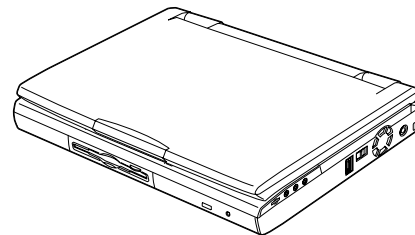

Figure 1-1 LifeBook E Series Notebook
- LifeBook E Series from Fujitsu. (Figure 1-1.)